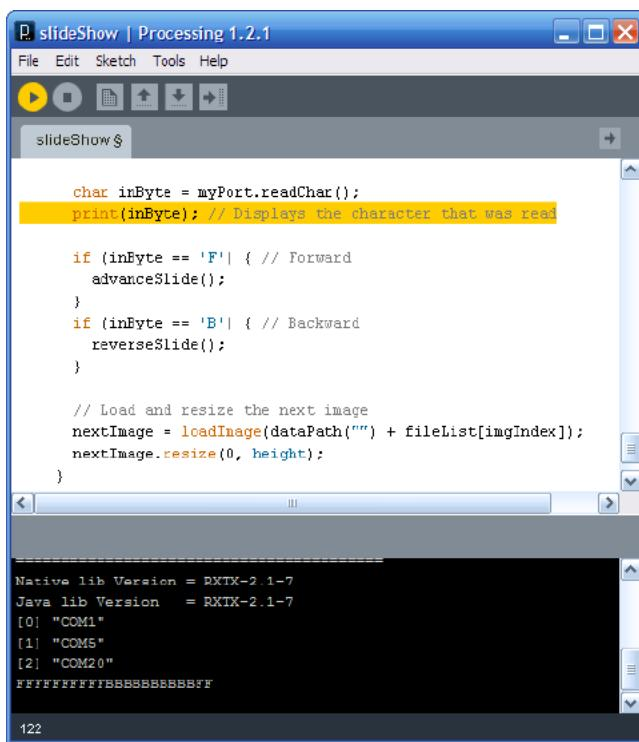

Figure 5-26. Processing displaying the characters it reads from the Arduino over the serial port
- ⑥ The `draw()` function is similar to Arduino's `loop()` in that it's called continuously. Because Processing draws graphics and animations, this function is called a certain number of times per second (60) unless you change the frame rate with the `frameRate()` function.
- ⑦ This block checks to make sure there is some text to read from the serial port. If so, it reads it and prints it out (see Figure 5-26).